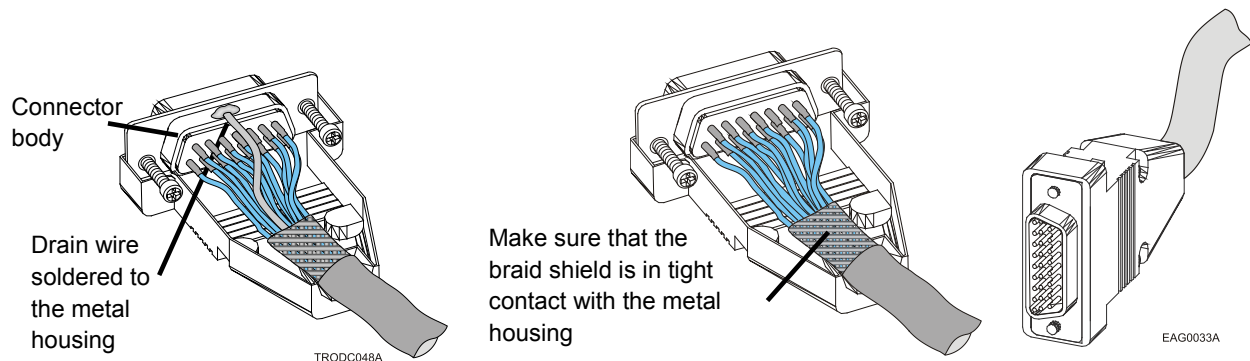

Figure 10: Feedback and Control Cable Assemblies
- Ideally, solder the drain wire to the connector body as shown in Figure 10. However, the shield may also be attached without soldering, as long as the braid shield is in tight contact with the metal housing of the D-type connector.